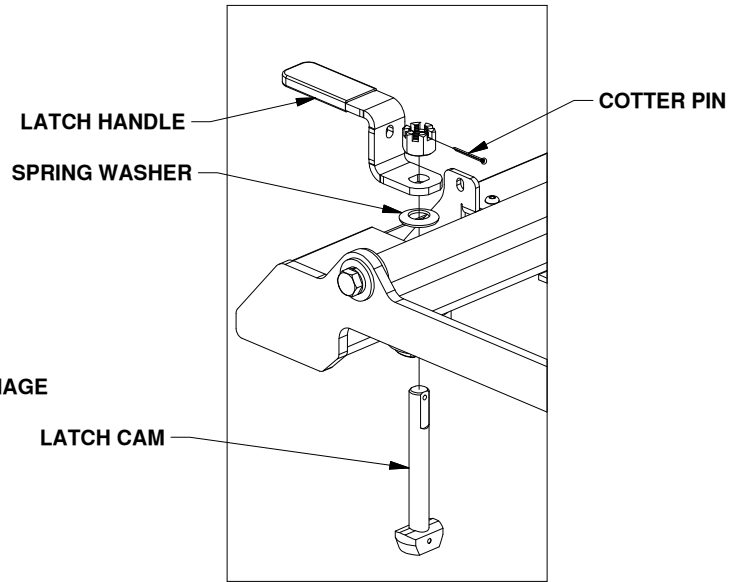

FIGURE B3: List of latch parts.
- Adjust the tension in the latch handle**, for parts list and visual guide refer to figures B3 and B4.